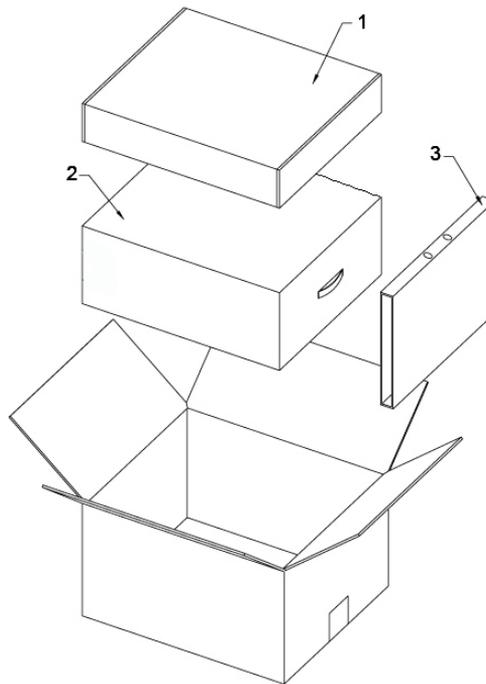

Figure 3-3. Unpacking the Venue 50
3. Take out the paper pad on the side. Refer to Figure 3-3 on page 3-10.
4. Take out the Accessories Package and Console Package. Refer to Figure 3-3 on page 3-10.